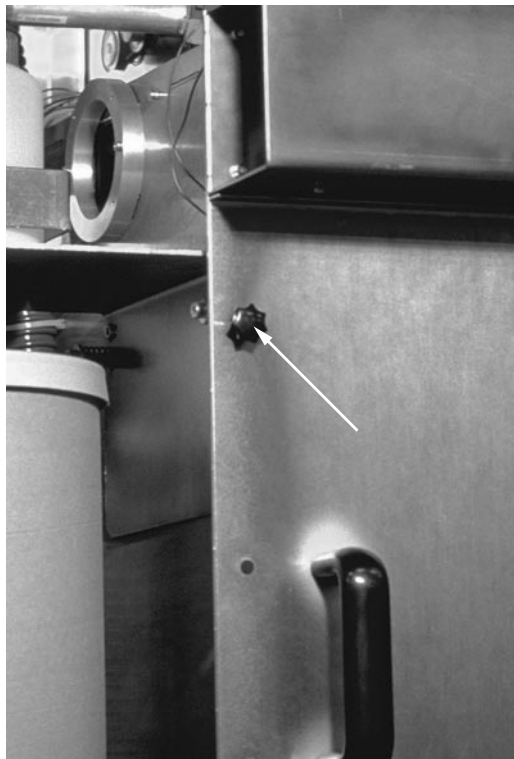

Figure 328. Fuser Cabinet Cover Black Knob
5. Unscrew and remove the four black knobs located on the cover of the fuser cabinet, as shown in Figure 328.